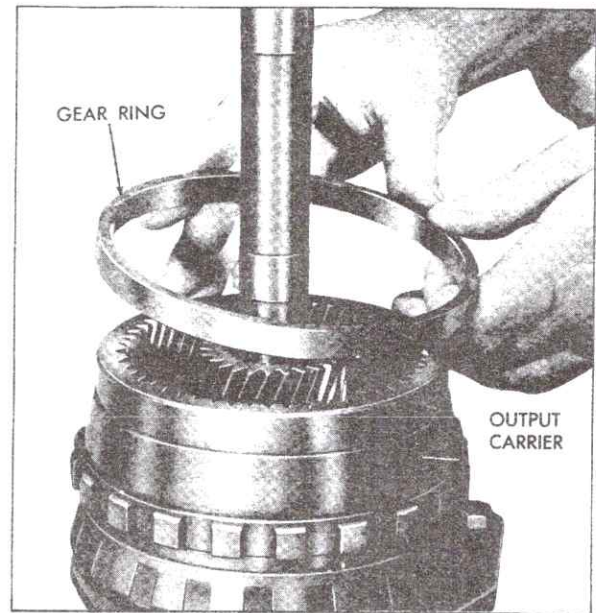

Fig. 7-163 Removing Front Internal Gear Ring
- f. Remove front internal gear ring from output carrier assembly, Fig. 7-163.